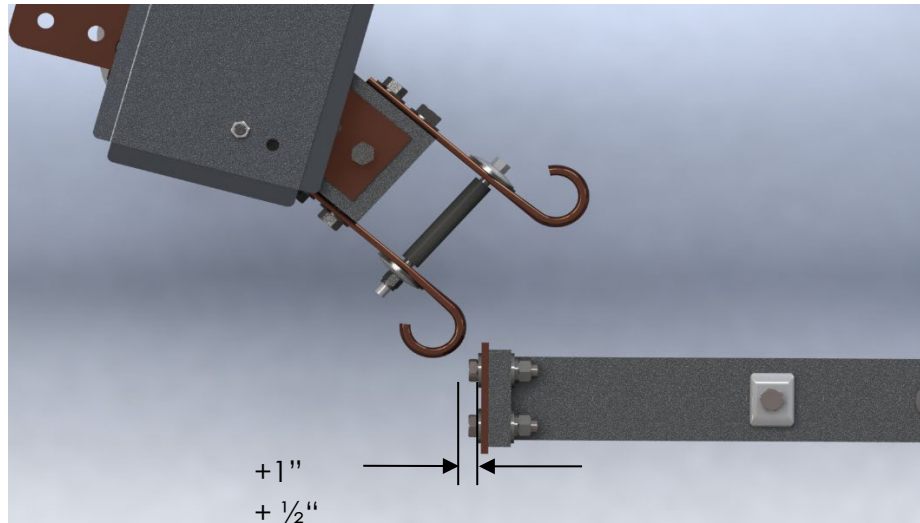

Figure 10: Blade Open Gap
- 4) There should be a gap of approximately $\frac{1}{2}$ " to 1" between the female blade contacts and the male blade tip when the female blade assembly is fully open. See Figure 10. It is critical that this gap is maintained to provide the proper clearance on opening.